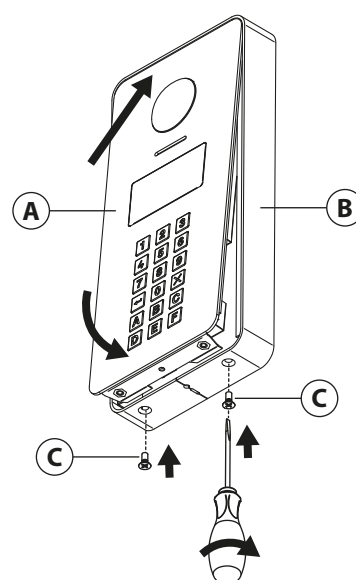

Fig. 5
5. Insert the top end of the panel (A) first, then level down and fix to the surface box (B) with the two screws (C) (**Fig. 5**).